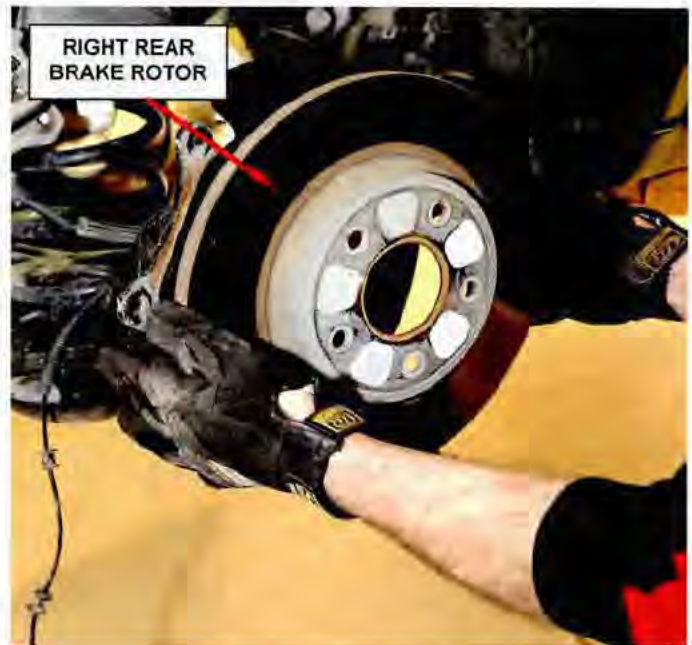

Figure 7 – Install Brake Rotor
18. Install the brake rotor over the hub and bearing assembly (Figure 7).